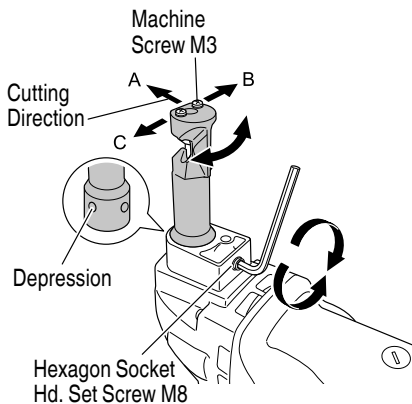

Fig. 8
- (1) The cutting direction of this machine can be rotated in  $90^\circ$  increments in 3 directions (A, B and C) (see Fig. 8) by loosening the M8 hexagon socket set screw mounting the die holder. Set the cutting direction in the B or C direction to cut trapezoidal plates. After that, securely tighten the M8 hexagon socket set screw.
- Loosen the M8 hexagon socket set screw mounting the die holder (see Fig. 8) and remove the die holder.